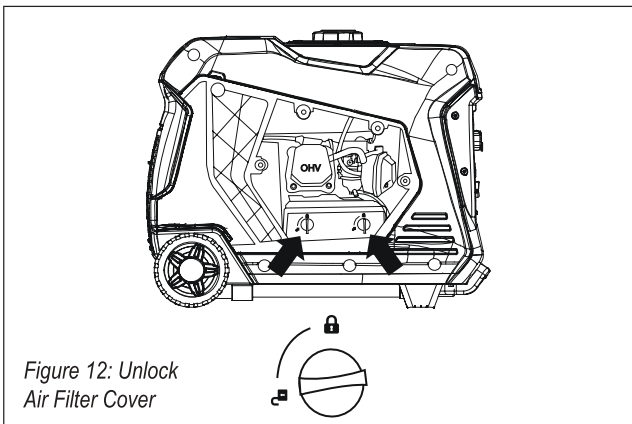

Figure 12: Unlock Air Filter Cover
3. Turn the 2 knobs on the air cleaner to unlock the cover. Tip the cover down to access the foam element (see Figure 12).
3. Loosen the float bowl drain screw until fuel is seen draining from the float bowl (see Figure 12).